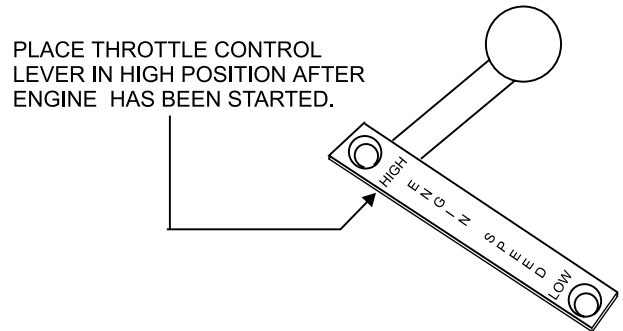

Figure 10. Engine Throttle Control Lever (High)
- Place the **engine throttle lever** (Figure 10) in the **HIGH** position.